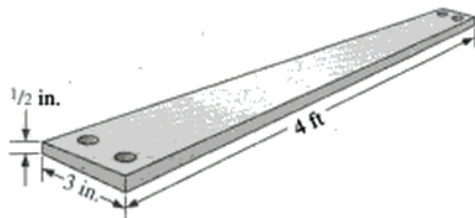

FIG. 3.45
11. a. What is the resistance of a copper bus-bar for a high-rise building with the dimensions shown ($T = 20^\circ\text{C}$) in Fig. 3.45?